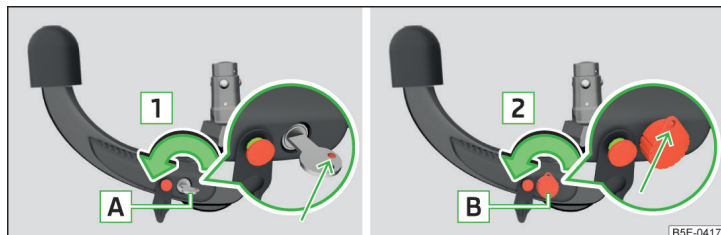

Fig. 167 1st Step: Key Version 1 / key Version 2
- Turn key **A** in the direction of arrow **1** so that the red marking is pointing upwards » Fig. 167.
- Turn the key in the direction of arrow **B** **2** so that the conclusions release shows up » Fig. 167.